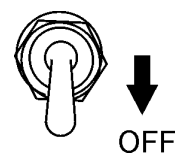

Figure 34. Idle Control Switch (OFF)
3. Place idle control switch (Figure 34) in the **OFF** position.